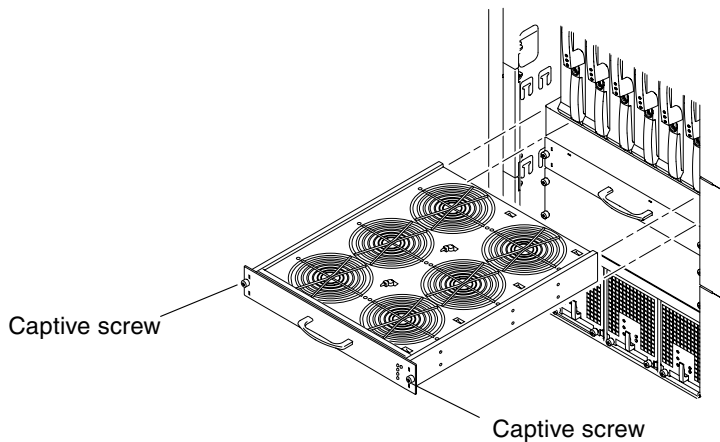

FIGURE 6-5 Removing or Replacing a Front Fan Tray—Sun Fire 6800 System
5. Slide the fan tray out (FIGURE 6-5).